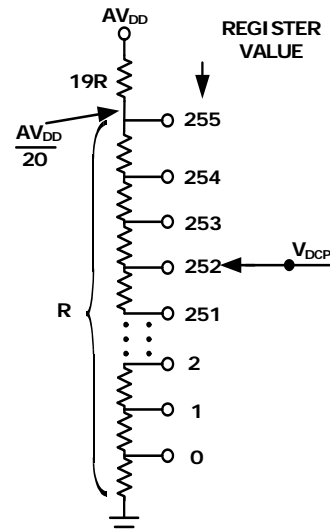
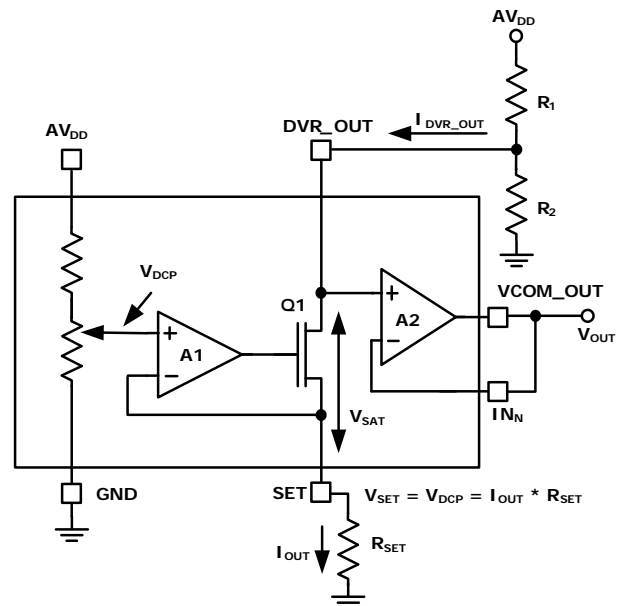

FIGURE 4. SIMPLIFIED SCHEMATIC OF DCP
FIGURE 5. CURRENT SINK CIRCUIT
**Electrical Specifications** Test Conditions: VDD = 3.3V, AVDD = 18V, RSET = 5k $\Omega$ , R1 = 10k $\Omega$ , R2 = 10k $\Omega$ , (See Figure 5), VCOM\_OUT pin connected to INN, unless otherwise specified. Typicals are at TA = +25°C. **Boldface limits apply over the operating temperature range, -40°C to +85°C.**
**Electrical Specifications** Test Conditions:  $V_{DD} = 3.3V$ ,  $AV_{DD} = 18V$ ,  $R_{SET} = 5k\Omega$ ,  $R_1 = 10k\Omega$ ,  $R_2 = 10k\Omega$ , (See Figure 5),  $V_{COM\_OUT}$  pin connected to  $IN_N$ , unless otherwise specified. Typical values are at  $T_A = +25^\circ C$ . **Boldface limits apply over the operating temperature range,  $-40^\circ C$  to  $+85^\circ C$ . (Continued)**
The ISL24212 uses a digitally controllable potentiometer (DCP), with 256 steps of resolution (see Figure 4) to change the current drawn at the DVR\_OUT pin, which then changes the voltage created by the  $R_1$  -  $R_2$  resistor divider (see Figure 5). The DVR\_OUT voltage is then buffered by A2 to generate a buffered output voltage at the  $V_{COM\_OUT}$  pin, capable of directly driving the  $V_{COM}$  input of an LCD panel. The amount of current sunk is controlled by the setting of the DCP, which is recalled at power-up from the ISL24212's internal EEPROM. The EEPROM is typically programmed during panel manufacture. As noted in the "Electrical Specifications" on page 4, the ISL24212 requires a minimum  $AV_{DD}$  voltage of 10.8V for EEPROM programming, but will work in normal operation down to 4.5V after the EEPROM has been programmed, with no additional EEPROM writing.
The DCP controls the voltage that ultimately controls the SET current. Figure 4 shows the relationship between the register value and the DCP's tap position. Note that a register value of 0 selects the first step of the resistor string. The output voltage of the DCP is given in Equation 1:
Figure 5 shows the schematic of the DVR\_OUT current sink. The combination of amplifier A1, transistor Q1, and resistor  $R_{SET}$  forms a voltage-controlled current source, with the voltage determined by the DCP setting.
With amplifier A2 in the unity-gain configuration ( $V_{COM\_OUT}$  tied to  $IN_N$  as shown in Figure 5),  $V_{DVR\_OUT} = V_{COM\_OUT} = V_{COM}$ .